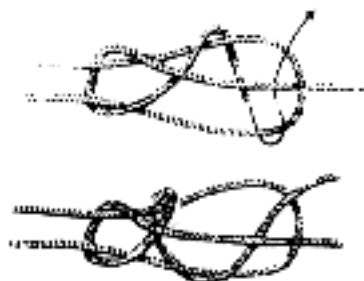

Figure 10-2. Double sheet bend
(2) Double sheet bend - Two wraps securing a bight held in place by a locking bar. The two standing parts form an "L" and exit the knot at a 90 degree angle from each other. Used to tie ropes of equal or unequal diameter together; or to tie several ropes to one rope (figure 10-2).